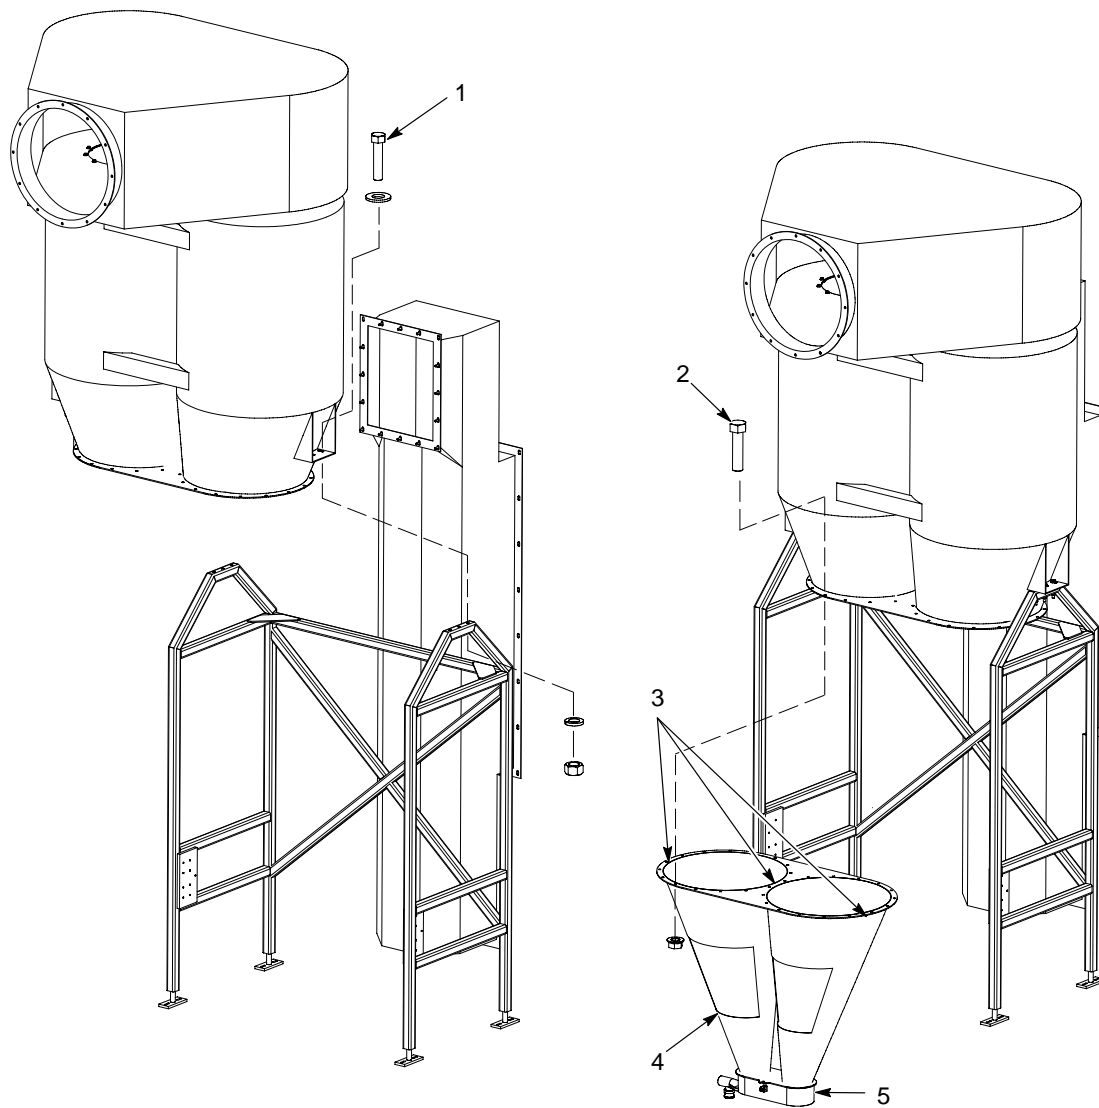

Figure 12 Installing Cyclone on Stand and Completing Assembly
4. See Figure 12. Install the cyclone/banjo assembly on the stand.
5. Attach the cyclone to the stand with $\frac{1}{2}$ x 1 in. steel bolts and nuts (1). Tighten the bolts securely.
6. Apply a bead of RTV sealant (3) to the flange on the lower half of the cyclone.